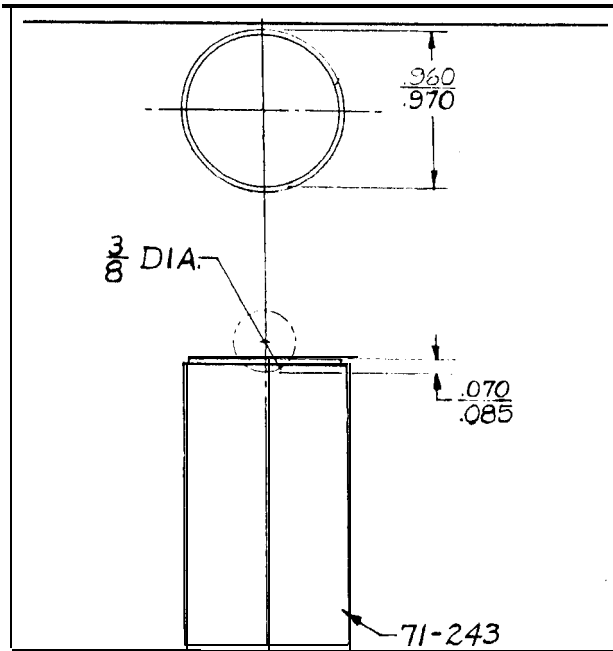

Fig. 101 Reoperation to Eliminate Regulator Valve BUZZ
16. New pressure regulator valves (71-243) have a relief at the outer diameter at the closed end for the elimination of regulator valve buzz, (Fig. 101). If a transmission should have a valve buzz and contains a 71-243 pressure regulator valve which does not have the relief, the valve should be replaced, or reoperated as illustrated.